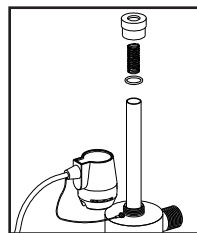

FIGURE 3B
- d) Carefully remove o-rings from the quartz sleeve (Figure 3B). As the o-ring may tend to adhere to the quartz sleeve, it is recommended to replace the o-rings annually. Remove quartz sleeve carefully from chamber.